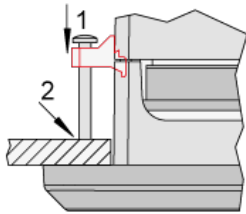

Fig. 16: Tighten clamping screws
6. Tighten the clamping screws (Fig. 16/1) until the control unit is secured to the control panel (Fig. 16/2). Over tightening of these screws may result in the clamp inserts or the housing breaking. Do not exceed the recommended tightening torque of 0.1 Nm.